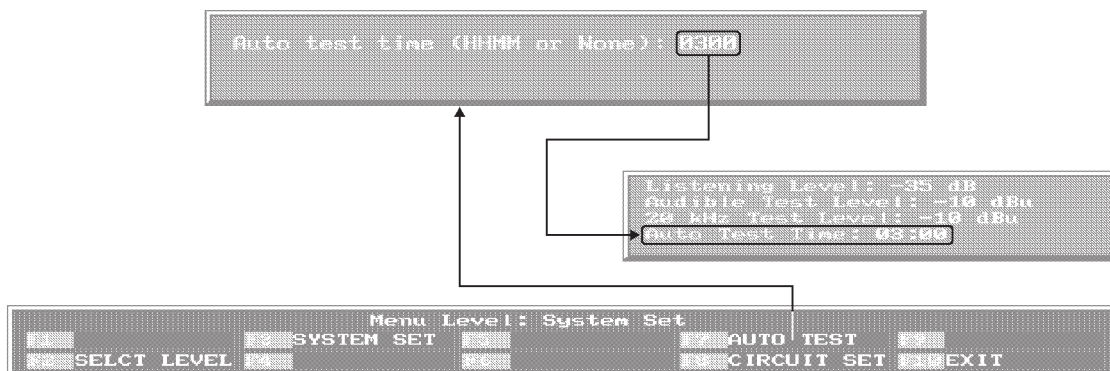

Figure 17 - System Set Menu
To choose a time for the Automatic Test, press the function key associated with the 'AUTO TEST' function in the System Set menu. An entry window appears with the prompt 'Auto test time (HHMM or None) :'. Type the desired time using 24-hour format and a leading zero for times less than 10:00. Press the 'Enter' key to complete the entry. Do not type the colon. It is put in automatically. For example, 2 am would be entered as '0200'. 2 pm would be entered as 1400. If no automatic test is to be performed, type 'none'. The automatic test time is displayed toward the lower right of the screen. See figure 17, and figure 1, item 10.